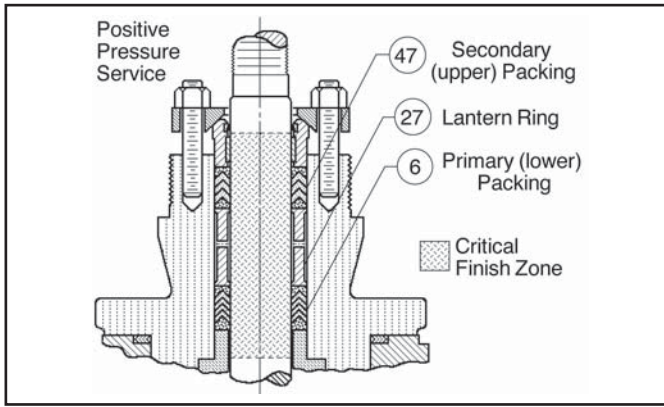

Figure 7: Dual Packing – Arr. "A", Opt-34A
- 9. Using a sharp, hooked-end, pick-type tool, hook and pull the packing rings (47) up and out of the bonnet’s (2) stuffing box individually. Examine for proper orientation (see Figures 7, 8, 9 and 10).
- 10. Remove bonnet (2) from vise and invert to allow lantern ring (27) or packing spacer (9) to slide out of the bonnet’s stuffing box.
- b. Using a sharp, hooked-end, pick-type tool, hook and pull the primary lower packing ring set (6) up and out of the bonnet's (2) stuffing box individually. Examine for proper orientation (see Figures 7, 8 and 9).
12. Examine plug/stem (3) at lower guide bushing (8) area for wear. If there are signs of excess wear, guide bushing should be replaced:
- a. Place the bonnet (2) on a bench press. Press guide bushing out of bonnet and discard.
13. Examine plug/stem (3) in critical finish zone where contact is made with the packing (6,47). It is desirable to restore the surface of the stem to a #4 Ra μ -in surface finish; metal removal should not exceed 0.001 inch material. A deeply scratched or pitted stem should be replaced.
14. Examine plug/stem (3) for wear around the seating area. Examine seat ring (11).
15. Examine the inner surface of the bonnet's (2) stuffing box. It is desirable to restore the surface of stuffing box to a #8 Ra μ -in surface finish; metal removal should not exceed 0.001 inch material. A deeply scratched or pitted bonnet (2) should be replaced.